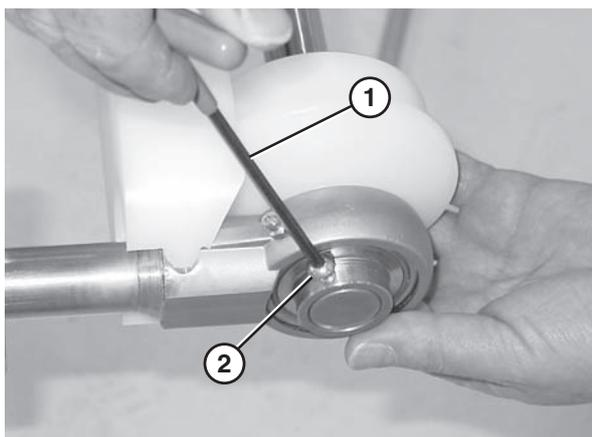

Figure 87
- Use a hex wrench (**Figure 87, item 1**) to tighten the bearing shaft fasteners (**Figure 87, item 2**) to 6 N•m. Check after 24 hours of conveyor use.